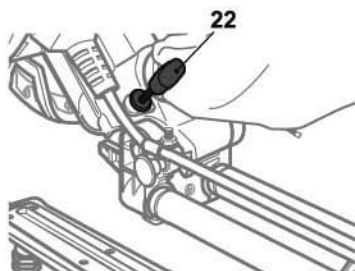

Fig. 42
**WARNING!** Always tighten the turntable locking handle (11) before making a cut. Failure to do so could result in the turntable (14) moving during the cut and cause serious personal injury.
3. Loosen the support bolt (10a) with a wrench 17 mm. Loosen the turntable locking handle (11). Rotate the turntable (14) until the pointer (12) aligns with 0° on the mitre scale (13). Retighten the turntable locking handle (11). Tighten the support bolt (10a) (Fig. 42).